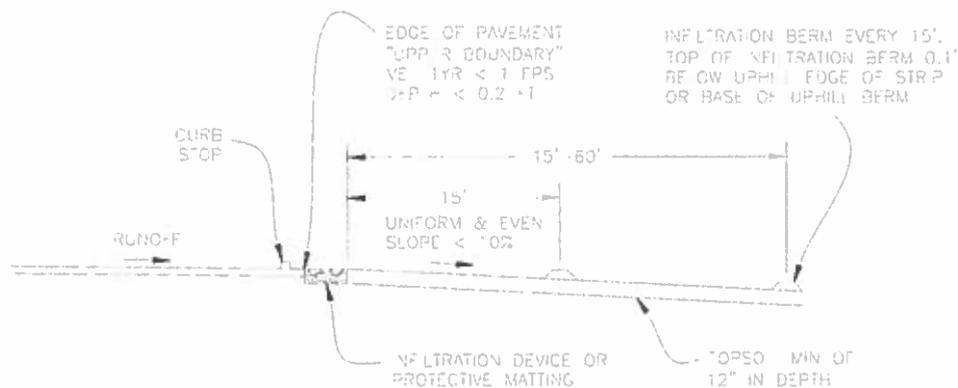

Figure 4-16: Engineered Vegetative Infiltration Strip
(5) **Upper Boundary Requirements:** The filter strip must run along the entire edge of the contributing area, no collection or routing allowed except following a water quality basin with flow attenuation or discharge from a level spreader to the filter strip. The soil along the upper boundary must be reinforced with protective matting or an infiltration device (preferred) may be used. Refer to Figure 4.16 below.